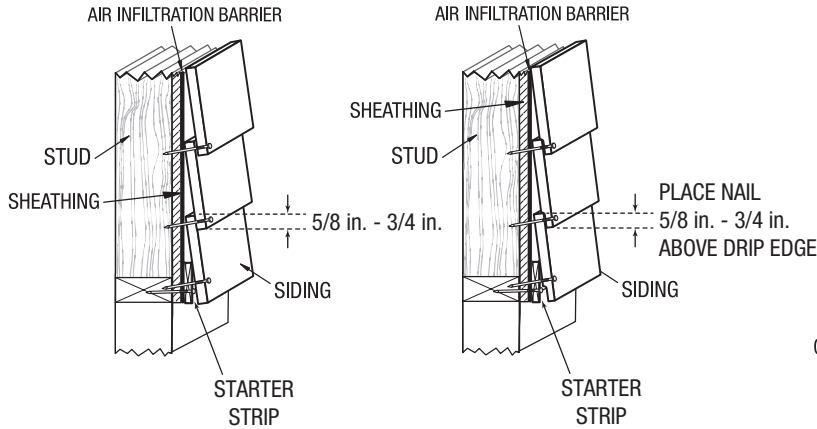

Figure 4
- Place nails 5/8 in. to 3/4 in. up from the drip edge. Make sure that nails penetrate through both pieces of siding and into studs (see Fig. 4).